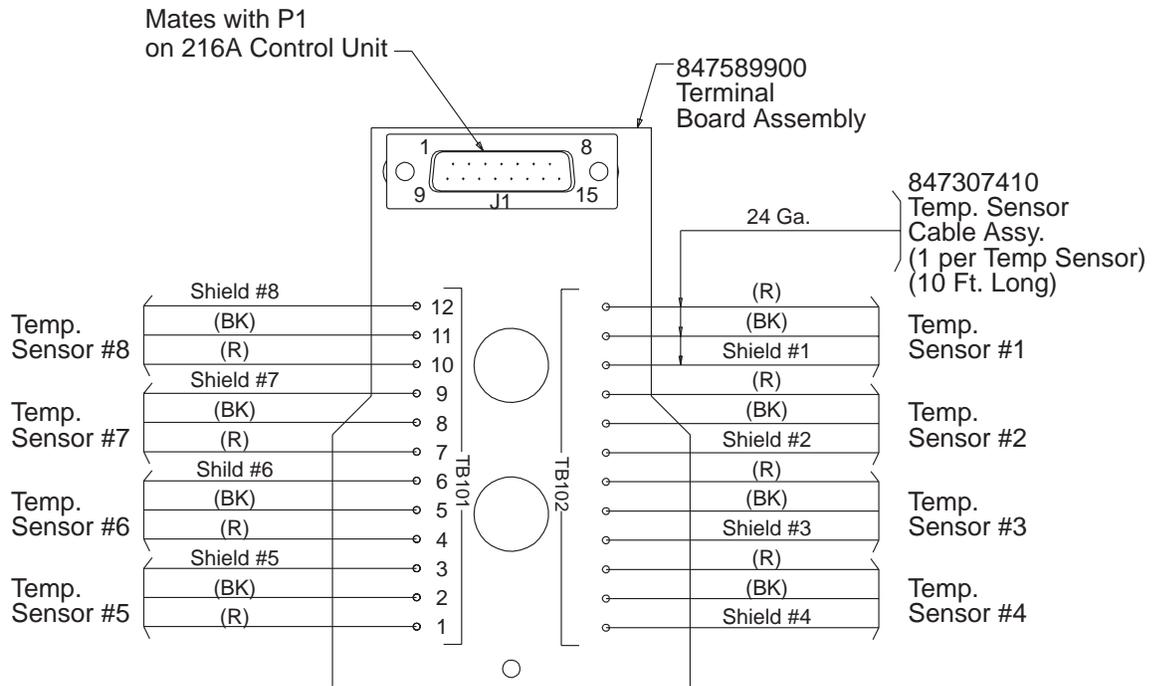

Figure 4-10: Terminal block assembly
3. Connect all thermistor wire sets (maximum = 8 per 216A) to terminal blocks TB101 & TB102 as shown in Figure 4-10. The **ambient temperature of the thermistor must be between 0°C (32°F) and 53°C (127.4°F)** when the wire set is connected to the Terminal Block Assembly in order for the proper temperature to be sensed by the 216A Control Unit.